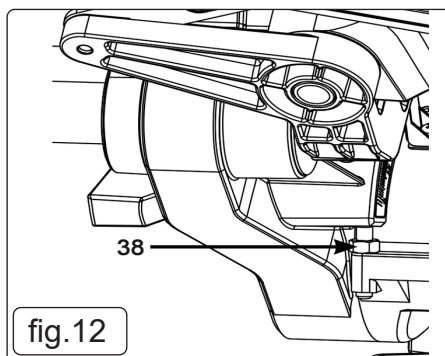

fig.12
- 7.3.5. Make any adjustments using adjusting screw a (fig 12 - 38).